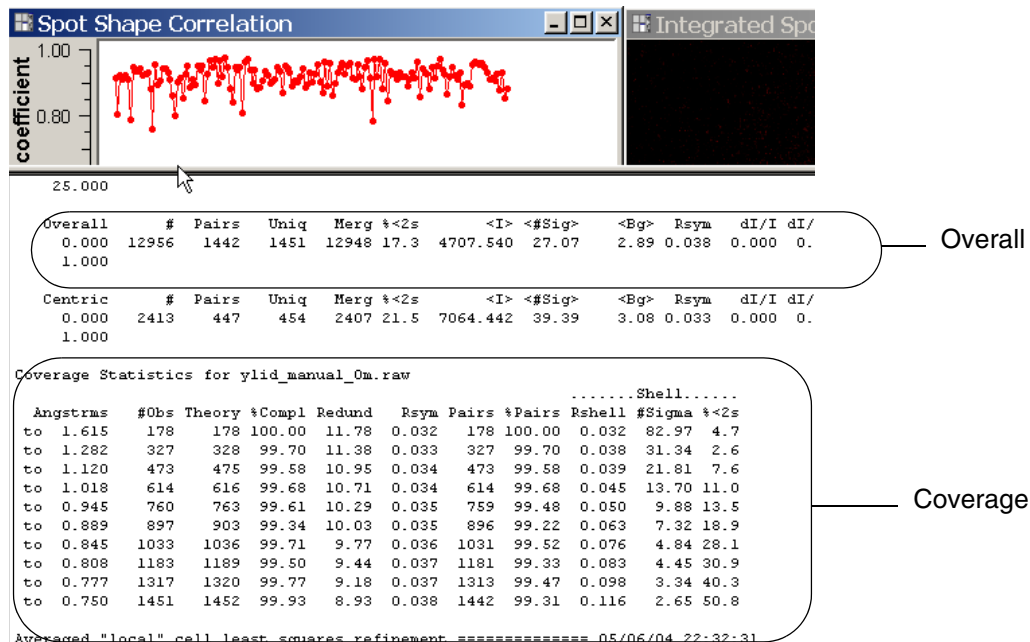

Figure 7.22 - Final SAINT Overall Rsym and Coverage Statistics
text as indicated by the position of the mouse cursor in Figure 7.22).
2.1 Overall Rsym and Coverage Statistics (Figure 7.22)